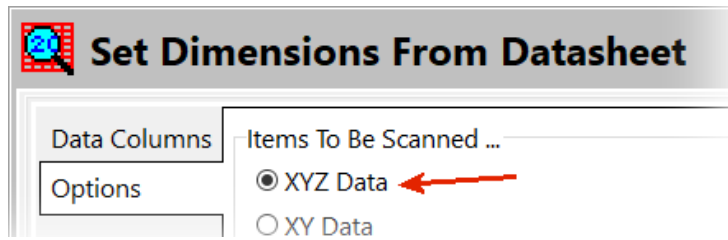

Figure 6
- Click on the *Options* tab and configure the program to scan the *XYZ Data* (Figure 6).